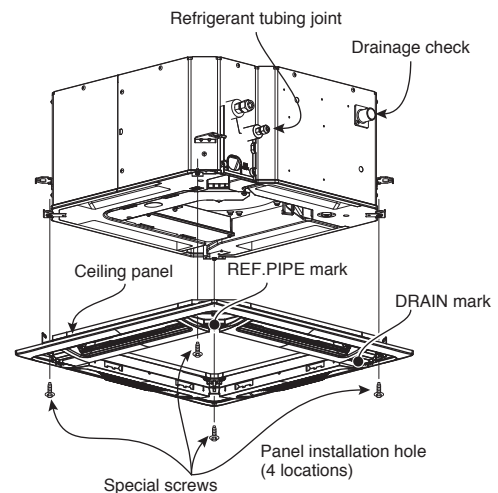

Fig. 6-18
- (2) Align the panel installation holes and the unit screw holes. (Fig. 6-18)
- (3) Tighten the supplied special screws at the 4 panel installation locations so that the panel is attached tightly to the unit.